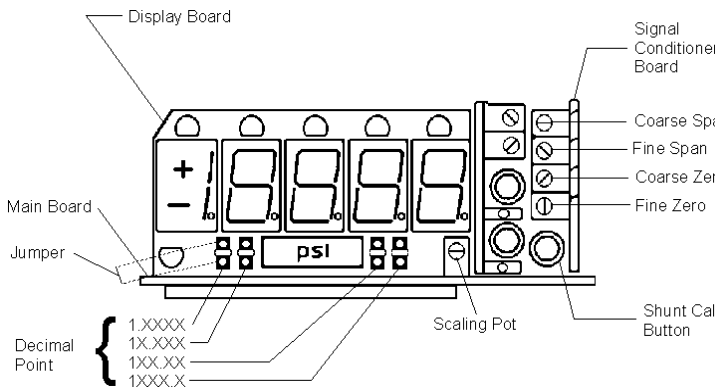

Figure 4-1 Main Unit Adjustment Locations
The following instructions will serve to zero and recalibrate the amplifier circuits, located on the Amplifier Board. See Figure 4.1.
4. Adjust the COARSE ZERO potentiometer (see Figure 4-1) to give an output voltage of about 0 volts. Then adjust the FINE ZERO potentiometer to bring this value exactly to 0 volts.
Scaling adjustment permits the AG-100 to display values in engineering units desired by the customer. Scaling adjustment establishes the ratio between the voltage output of the AG-100 and its displayed value. The SCALING potentiometer is located on the Main Board, as shown in Figure 4-1. The engineering units to be displayed are given on the Calibration Record.
Figure 4-1 shows jumper location for decimal point selection. Move the jumper to the desired position.